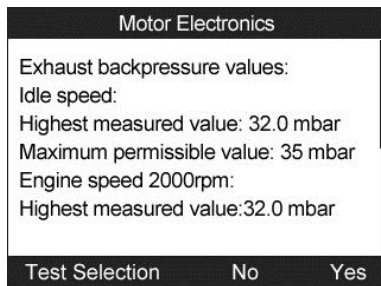

Figure 13.46
- f) The tool will submit a summary report for your confirmation.(Figure 13.46)